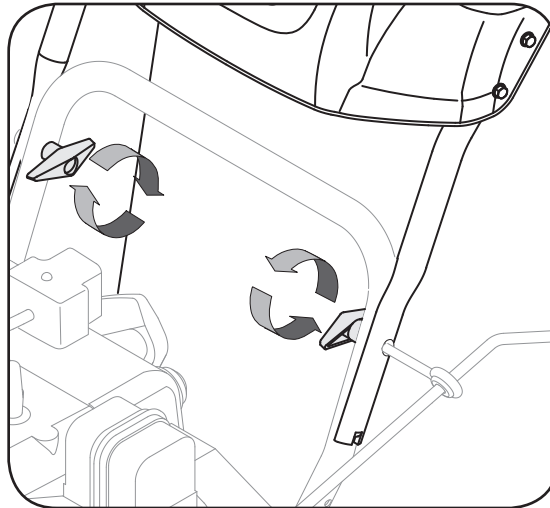

Figure 2
2. Secure the right side of the handle by tightening the plastic wing knob. Secure the left side of the handle by tightening the plastic wing knob into the eyebolt. See Figure 2.